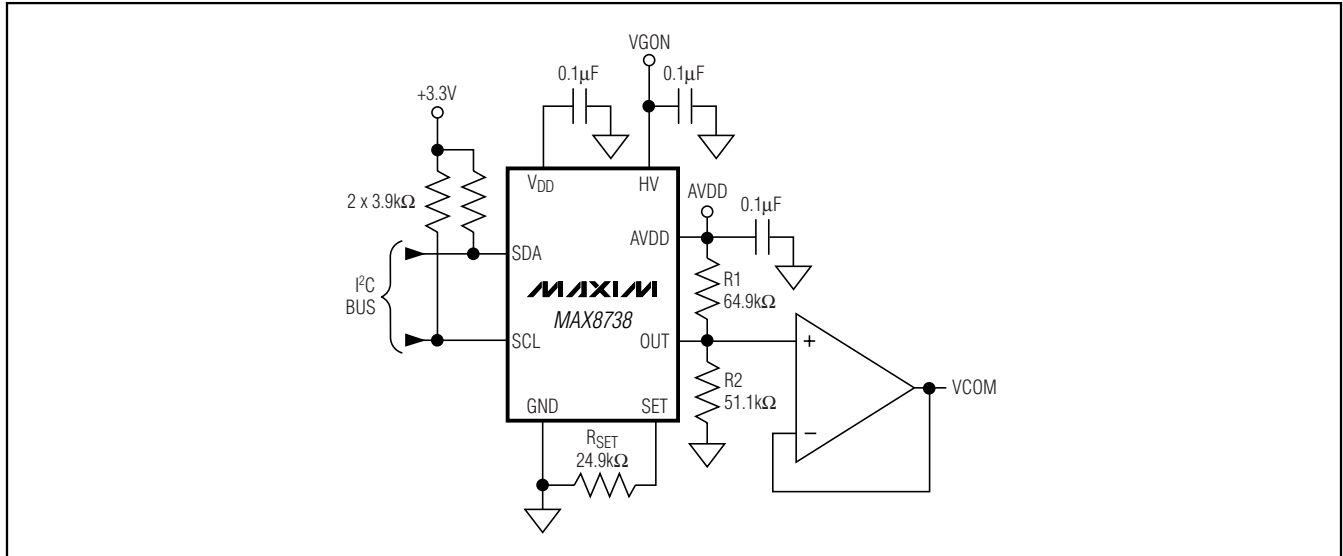
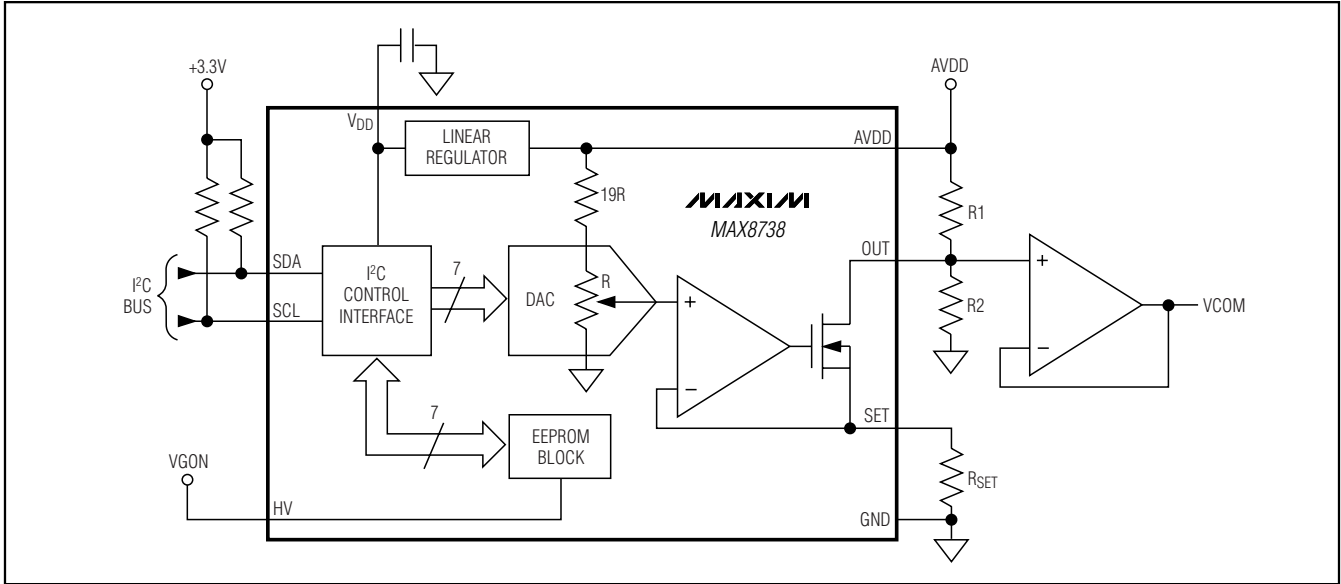

Figure 2. Standard Application Circuit
Figure 3. Simplified Functional Diagram
The MAX8738 is a solid-state alternative to mechanical potentiometers used for adjusting the LCD backplane voltage (VCOM) in TFT LCD displays. The MAX8738 attaches to an external resistive voltage-divider and sinks a programmable current (IOUT), which sets the VCOM level (Figure 2). An internal 7-bit DAC controls the sink current and allows the user to increase or decrease the VCOM level (Figure 3). The DAC is ratio-metric relative to VAVDD and is monotonic over all operating conditions. The user can store the DAC setting in an internal EEPROM. On power-up, the EEPROM presets the DAC to the last stored setting. The 2-wire I2C interface between the LCD panel and the programming circuit adjusts the DAC and programs the EEPROM.
- 1) Place the VCOM buffer and the R1/R2 voltage-divider close to the OUT pin (Figure 2).